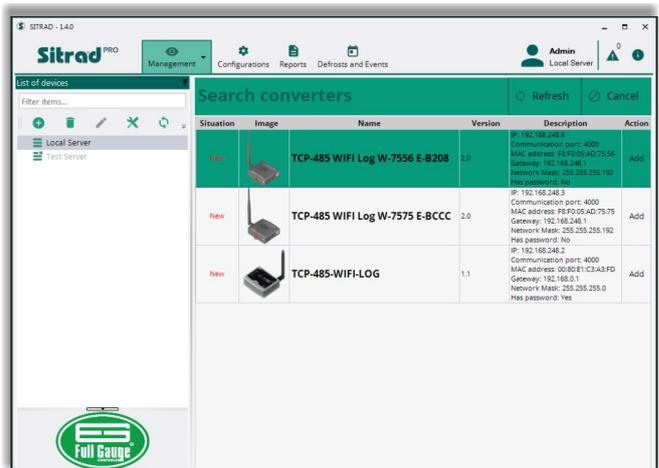

Figure 27
Step 3: **Sitrad^{PRO}** should perform the search on the network, and the available converters should appear in the **Converter Search** tab (Figure 27). Select the desired converter and click **Add**.